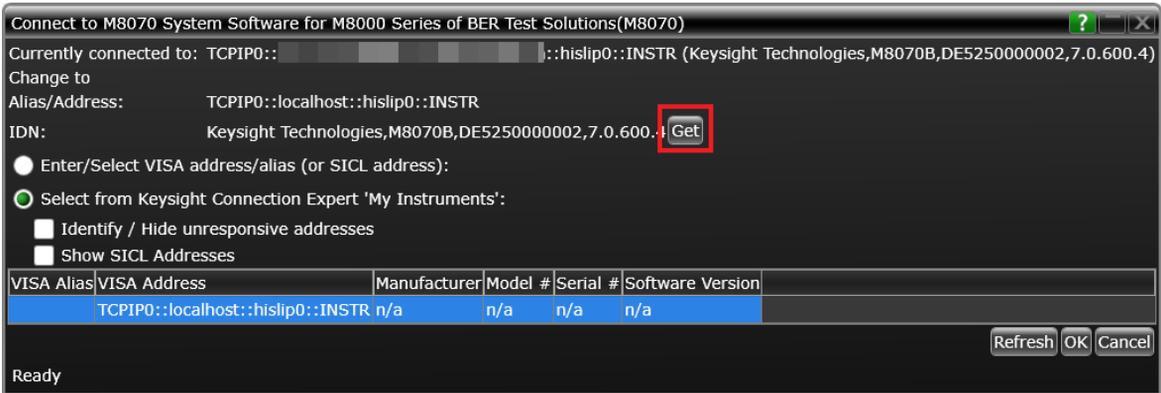

Figure 14 IDN field displaying successful connection to M8070B
- 3 Click **Get** (highlighted in Figure 14) in the **Connect to M8070B System Software for M8000 Series of BER Test Solutions(M8070)** window. The **IDN:** field displays the instrument name.